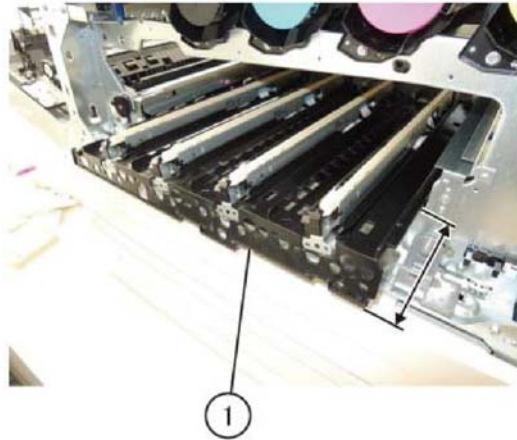

Figure 10 Marking guide
19. Pull out the marking guide (1) including the four LPH assemblies approximately 10cm (4 inches), Figure 10.